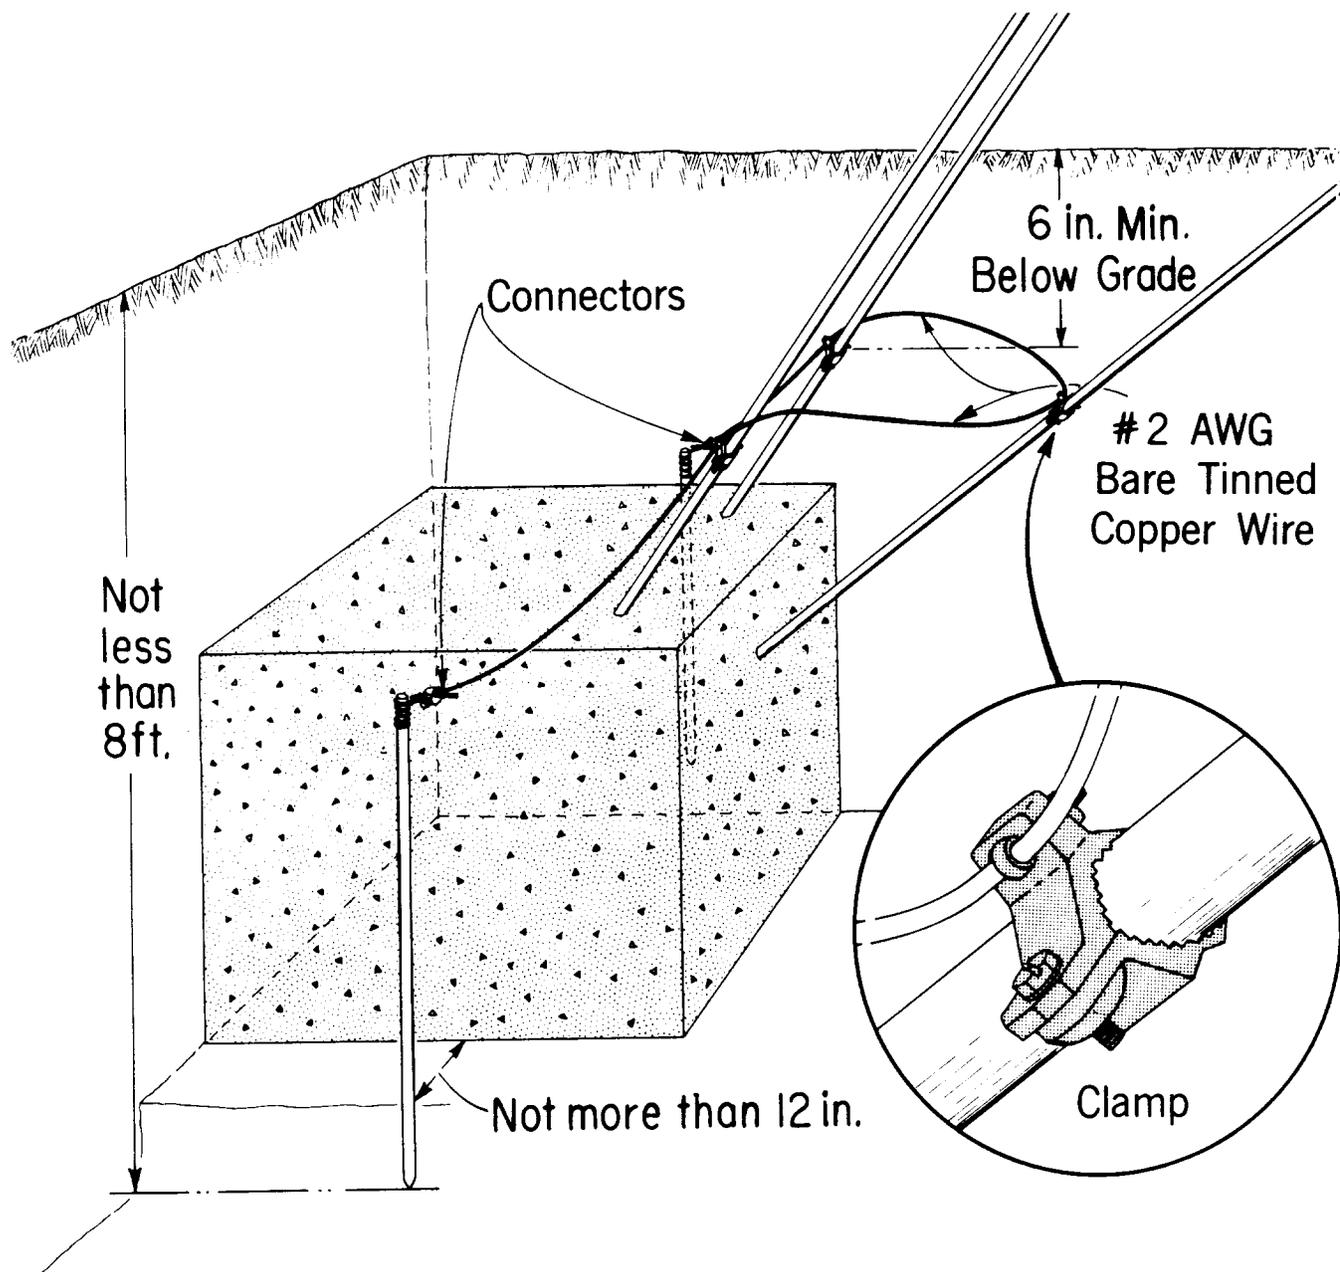

Fig. 2—Grounding at Anchors
2.04 Figure 2 shows grounding at the anchors. The ground rods are located within 12 inches of the anchor block and driven so the top of the rod is at the same level as the top of the anchor block. The two ground rods are connected to the guy rods with a length of No. 2 AWG bare-tinned copper wire. The length of wire used should be sufficiently long to connect the pigtail ends of both rods and permit attachments to all guy rods of the anchor block. The clamps at the guy rods should be positioned so they are at least 12 inches below final grade. The connection at the guy rod should be coated similar to that done at the tower base.